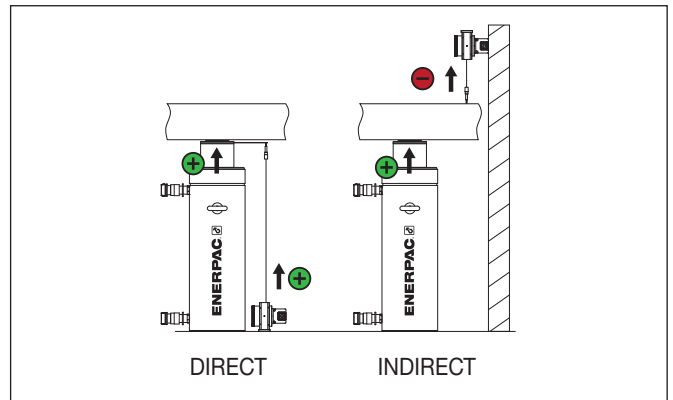

Figure 47: Direct and Indirect Layout
1. Position sensor scale: Depending on where the stroke sensor is placed, the user must select between direct or indirect movement. When the cylinder's plunger movement and the stroke sensor's wire are extending (positive movement), the movement is called direct. When the cylinder is extending but the stroke sensor wire is retracting (negative movement) the movement is called indirect. Refer to Figure 47 for further details.